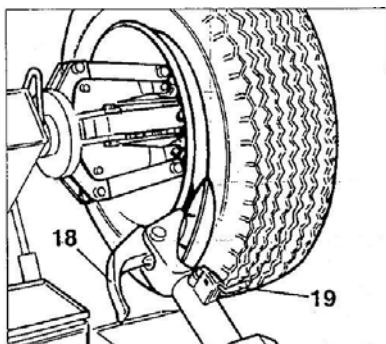

Fig.7.4
- 7) By using the bottom joystick (15, Fig.6.2) tilt the arm to 'non working" position; move and lock it in the inner position (Fig.7.4).
N.B.: During the bead breaking, the claw (18, Fig.7.4) can be towered so that it is out of the way.